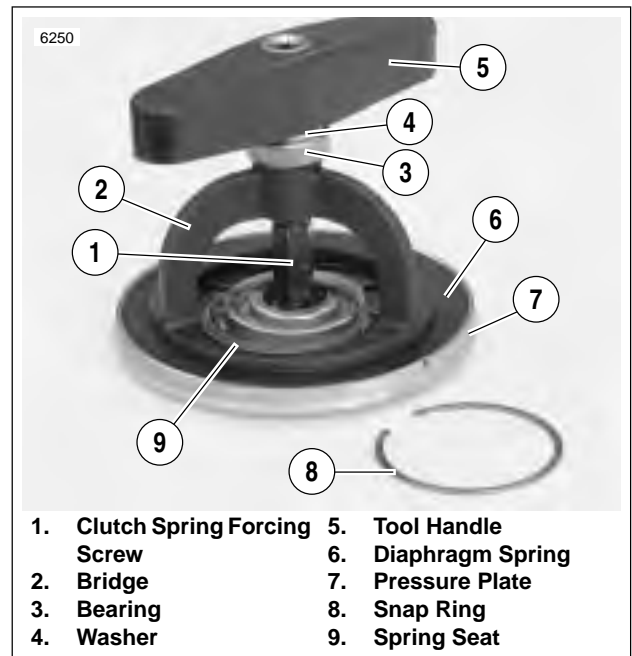
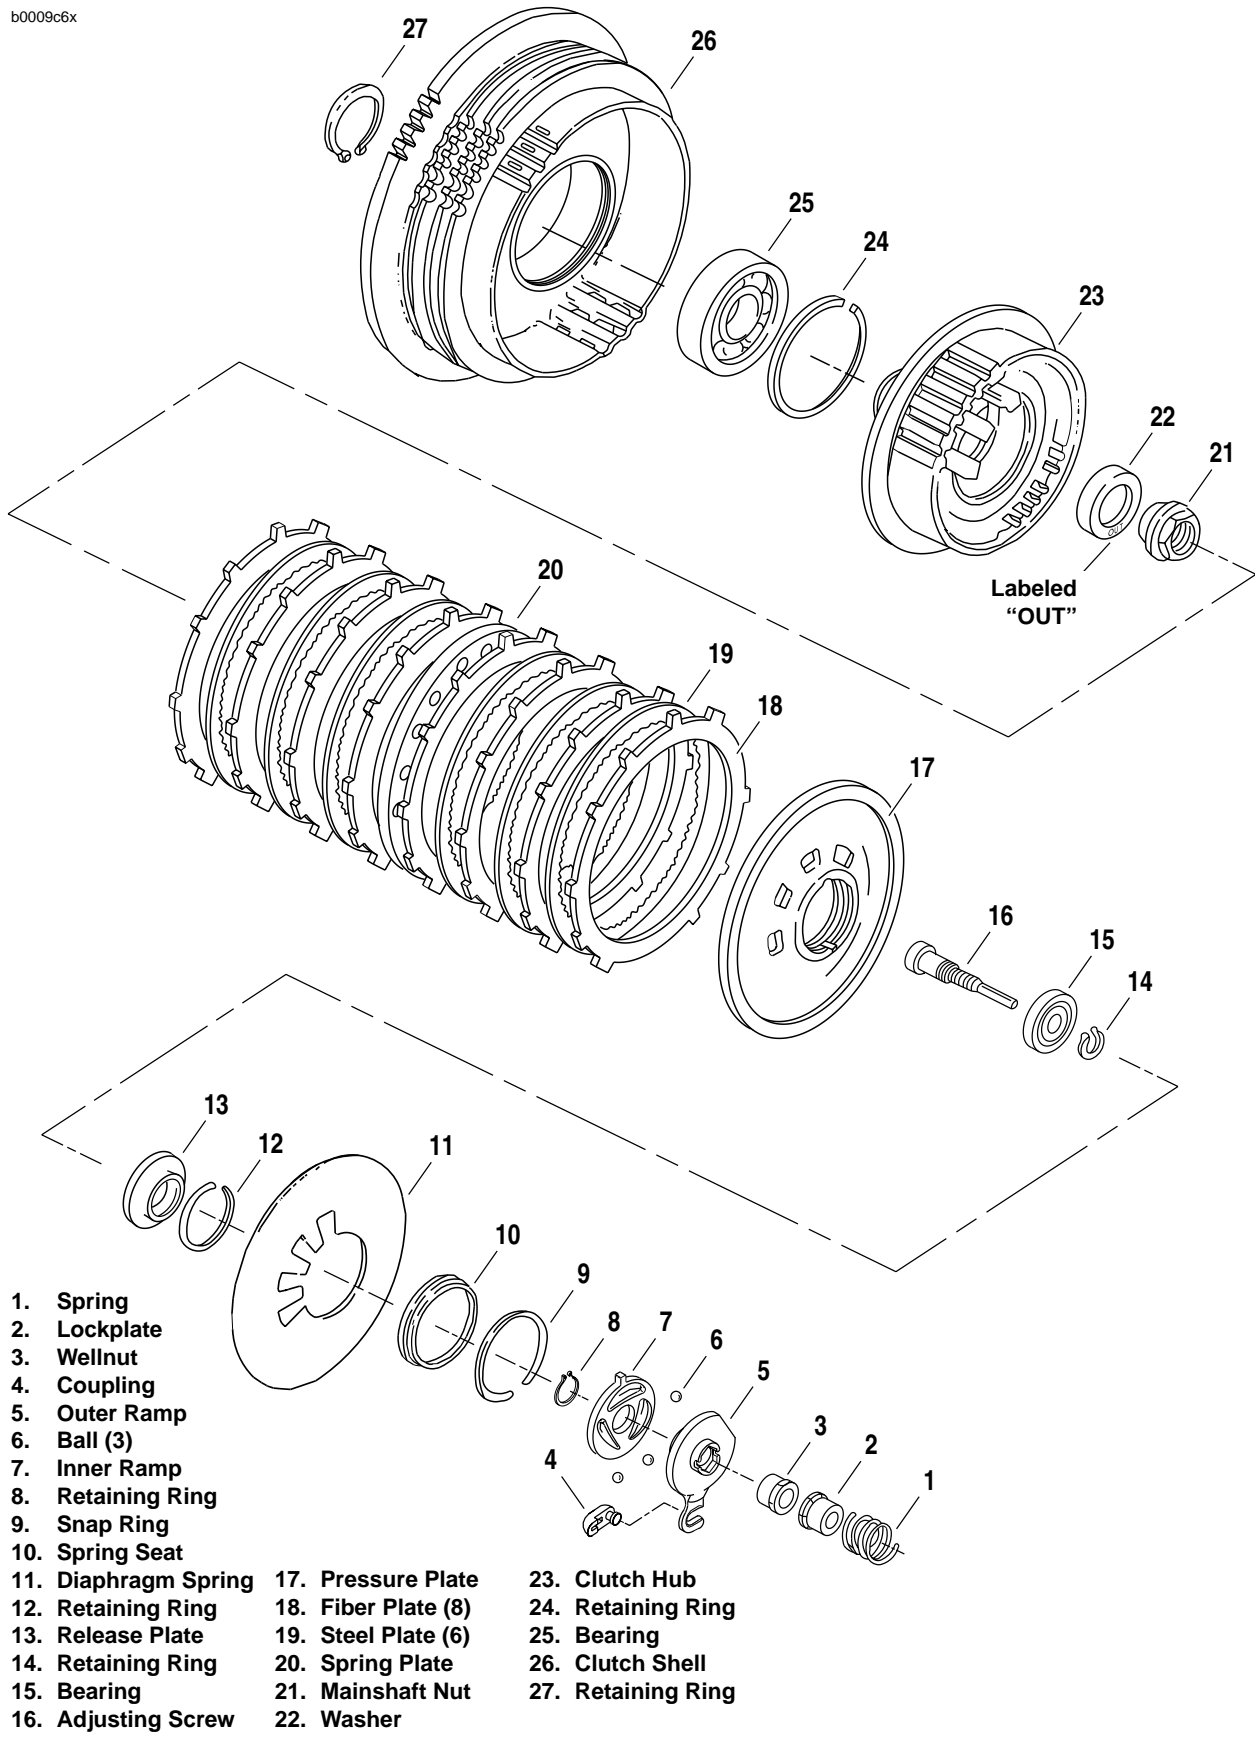
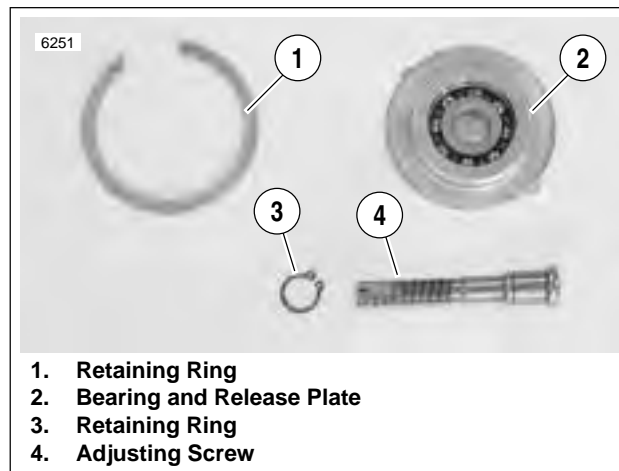
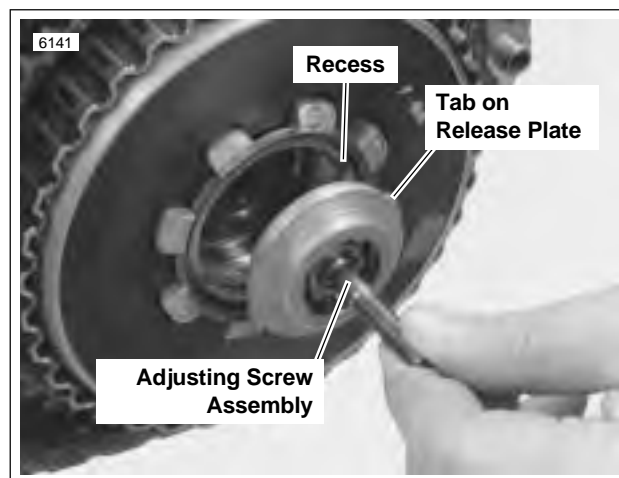

Figure 6-15. Pressure Plate Assembly
Figure 6-16. Clutch Assembly
Figure 6-17. Adjusting Screw Assembly
Figure 6-18. Aligning Tabs
See Figure 6-15. Turn compressing tool handle (5) only the amount required to release spring seat (9) and remove snap ring (8). Excessive compression of diaphragm spring (6) could damage clutch pressure plate (7).
- a. Place a wrench on the clutch spring forcing screw (1) flats to prevent the forcing screw from turning.
- b. Turn compressing tool handle (5) clockwise until tool relieves pressure on snap ring (8) and spring seat (9). Remove and discard snap ring (8).
- c. Unseat spring seat (9) from the groove in clutch hub prongs.
6. See Figure 6-16. Remove the clutch pack from the hub/shell assembly. The pack consists of eight fiber plates (18), six steel plates (19) and a spring plate (20).
5. See Figure 6-17. Remove adjusting screw assembly.
See Figure 6-16. Mainshaft nut (21) has left-hand threads. To prevent damage, turn nut clockwise to loosen and remove from mainshaft.
6. Remove mainshaft nut (21) and washer (22).
- a. See Figure 6-18. Align two tabs on perimeter of release plate with corresponding recesses in pressure plate.
- b. See Figure 6-17. Secure the adjusting screw assembly with large retaining ring (1).
11. See Figure 6-15. Disassemble pressure plate.
- b. Turn the compressing tool handle (5) counterclockwise until the handle spins off.
- c. Remove washer (4), bearing (3) and bridge (2).
- d. Remove clutch spring forcing screw (1) from clutch adjusting screw.
- e. Remove spring seat (9) and diaphragm spring (6) from pressure plate (7).
12. See Figure 6-17. Remove and disassemble adjusting screw assembly.
See **Figure 6-16**. Due to the possible damage to the bearing (25), the clutch hub (23) and shell (26) assembly should not be disassembled unless the bearing, hub or shell require replacement. If the assembly is pressed apart, the bearing must be replaced.
1. See **Figure 6-16**. Wash all parts, except fiber (friction) plates (18) and bearing (25), in cleaning solvent. Blow dry with compressed air. Examine the clutch components as follows:
- b. Inspect each steel (drive) plate (19) for grooves.
2. Check the diaphragm spring (11) for cracks or bent tabs. Install a **new** spring if either condition exists.
- See Figure 6-16. Install the clutch pack, which consists of eight fiber plates (18), six steel plates (19) and a spring plate (20), into the clutch hub (23). The order of plate assembly, from inboard to outboard, is as follows:
See Figure 6-15. Turn compressing tool handle (5) only the amount required to install spring seat (9) and snap ring (8). Excessive compression of diaphragm spring (6) could damage clutch pressure plate (7).
- Position spring seat (5) with its larger O.D. side toward diaphragm spring (1).
- See Figure 6-15. Place a wrench on the clutch spring forcing screw (1) flats to prevent the forcing screw from turning.
- Turn compressing tool handle (5) clockwise until diaphragm spring (6) compresses just enough to install spring seat (9) and **new** snap ring (8) into the groove in clutch hub prongs.
- Press **new** bearing (3) in clutch shell (4). Secure bearing with a **new** retaining ring (2).
- Press inboard end of clutch hub (1) into shell bearing (3). Secure with **new** retaining ring (5) on end of hub.
- See Figure 6-17. Place bearing inside release plate. Insert adjusting screw (4) through bearing and release plate (2). Secure with **new** retaining ring (3).
- b. Place washer (2) on mainshaft with the word "out" facing away from clutch hub (3).
- c. Install nut (1) (**left-hand threads**). Tighten to 70-80 ft-lbs (95-109 Nm).